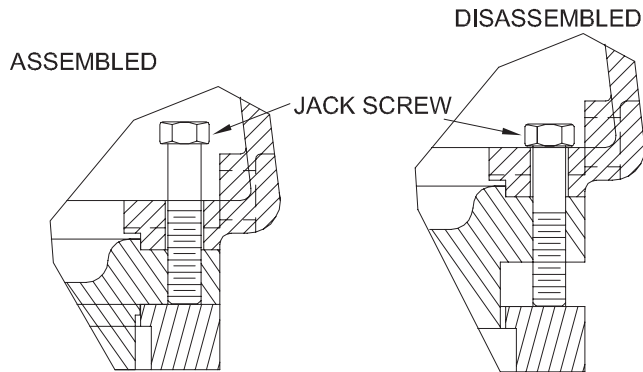

Figure 6
The In-Line Pumps feature "pull-out maintenance" whereby the rotating assembly can be removed while the casing remains in the line. To facilitate disassembly, refer to Figure 6 thru 9 and to assembly drawings on page 10.
2. Remove cap screws (212) holding casing (1) to the adapter (71).
3. Tighten the jack screws (287) uniformly. This will raise the unit out of the casing and simultaneously lock the packing box cover (11) to the adapter. Draw the jack screws up snug, see Figure 6.